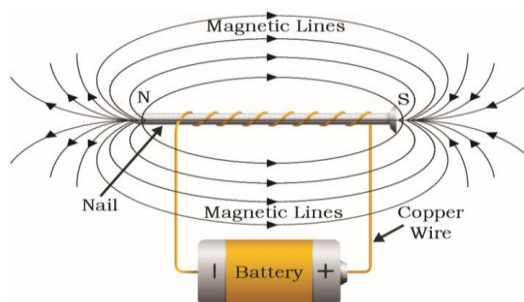

Fig. 1.60 Artificial Magnet or Electromagnet
Step 1. This presence of force shows a magnetic field of an electromagnet. Figure 1.60 illustrate that it become an electromagnet